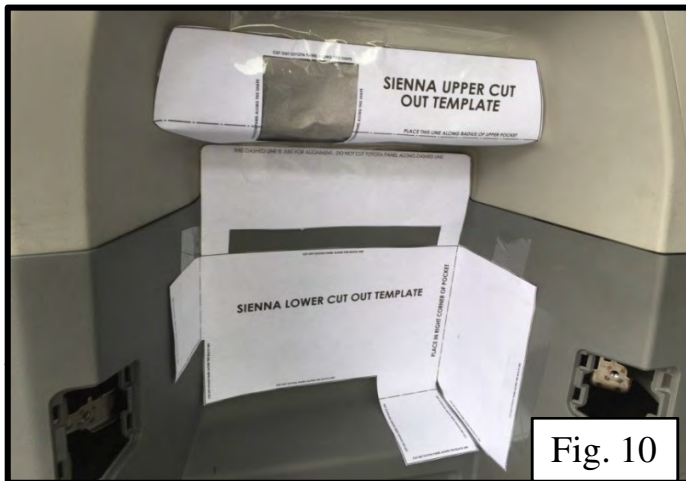

Fig. 10
12. After template has been checked for accuracy (see pg. 2, note 4), cut out paper templates according to the instructions on each (follow "Cut Out Template Along This Line"). Tape templates to vehicle panels, and place tape on hashed areas of template, leaving corners open for tracing (Fig.10).